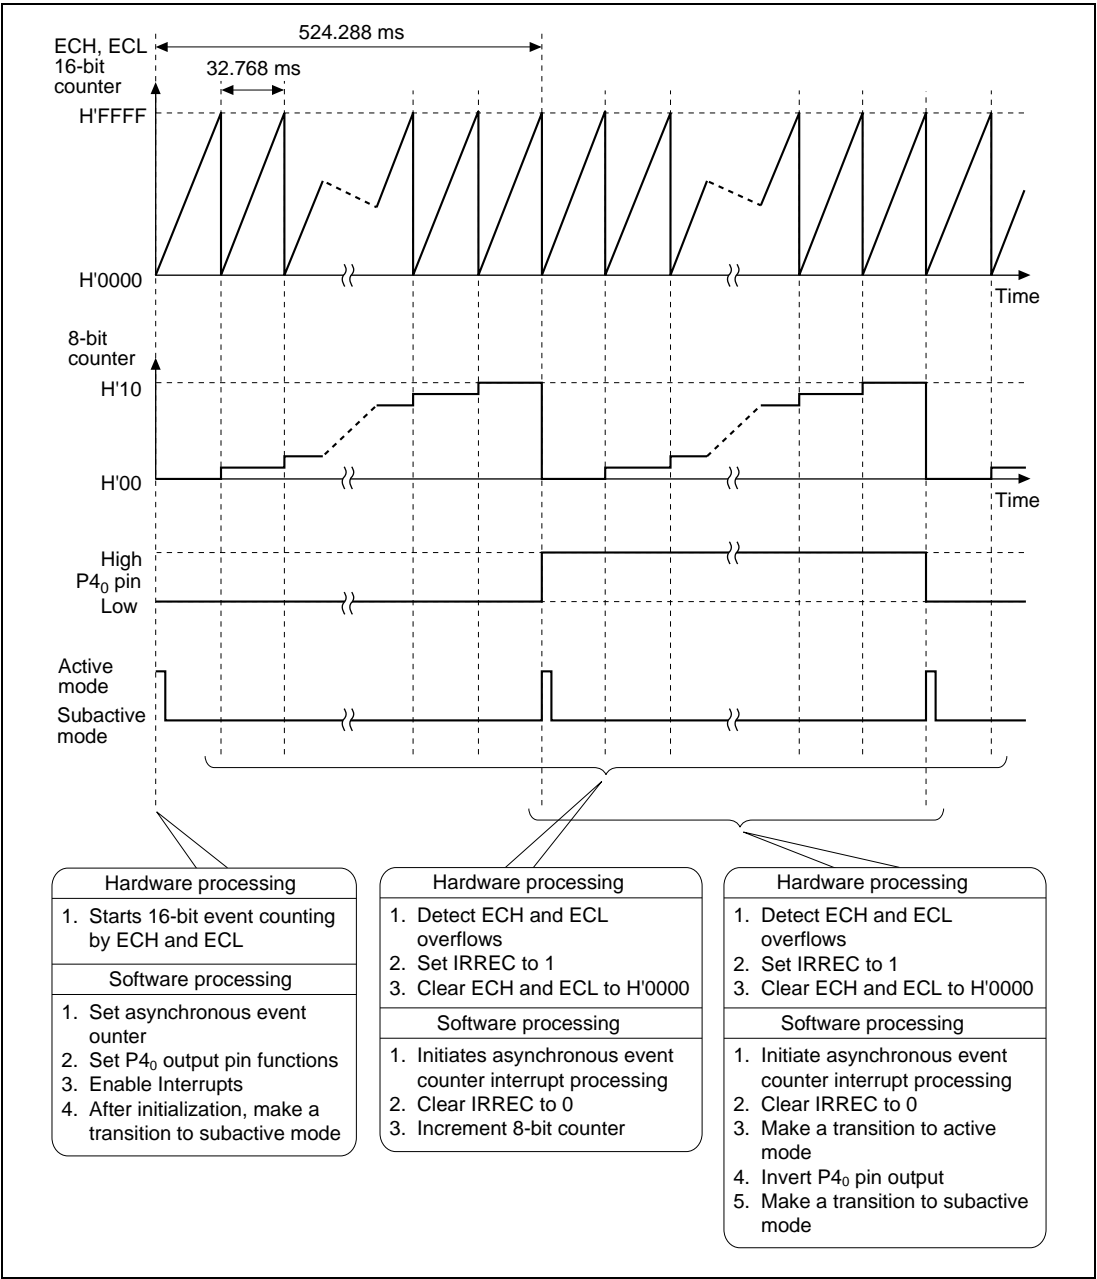

Figure 3 Principle of Operation of Asynchronous Event Counter
1. Figure 3 illustrates the principle of operation. Asynchronous event counter operation is based on the hardware and software processing indicated in the figure.